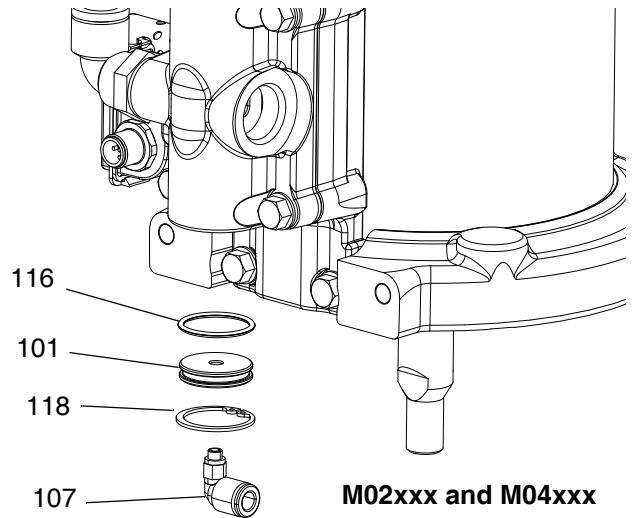
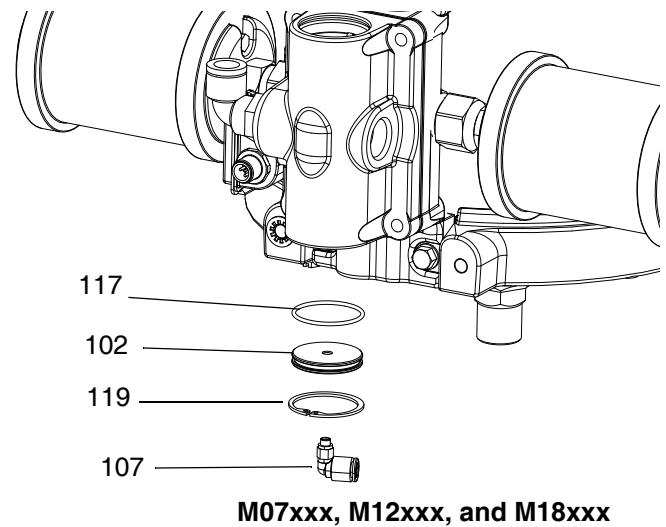

FIG. 14: Install Bottom Air Valve Plug
FIG. 15: Install Bottom Air Valve Plug
- Install the bottom o-ring (116 or 117), air valve plug (101 and 102), snap ring (118 and 119), and elbow fitting (107) in the bottom of the valve body. Apply a liberal amount of the supplied lubricant to the o-rings before installation. Refer to FIG. 14 and FIG. 15.